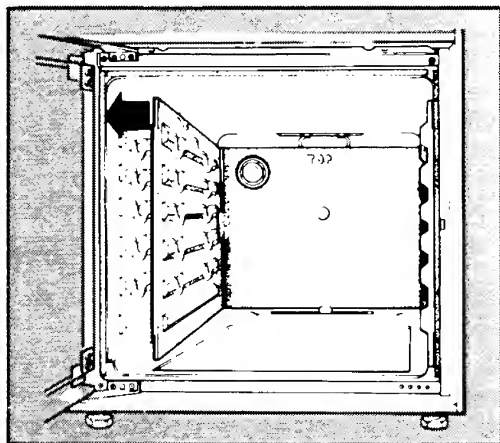

Fig. 4
2. Replace the side panels by sliding them behind the flaps on the back panel (Fig. 4).